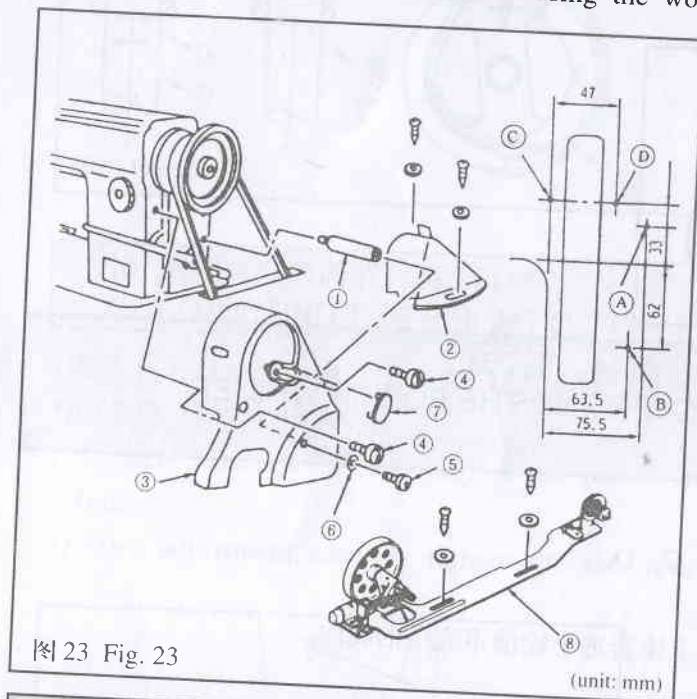
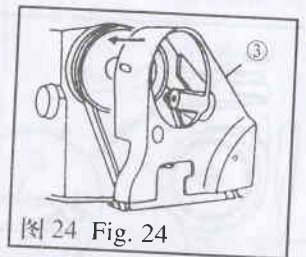
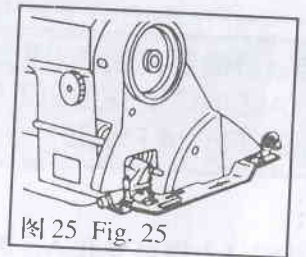

图 23 Fig. 23
图 24 Fig. 24
图 25 Fig. 25
- 1) When sewing heavy-weight materials, move thread guide ① to the left in direction A to increase the length of thread pulled out by the thread take-up.
- 2) When sewing light-weight materials, move thread guide ① to the right in direction B to decrease the length of thread pulled out by the thread take-up.
- 3) When the marker line C on the thread guide ① is aligned with the center of the screw, it is standard.
17. 皮带罩绕线器的装法(图 23、图 24、图 25)
17. INSTALLING THE BELT COVER AND THE BOBBIN WINDER (Fig.23, Fig.24, Fig.25)